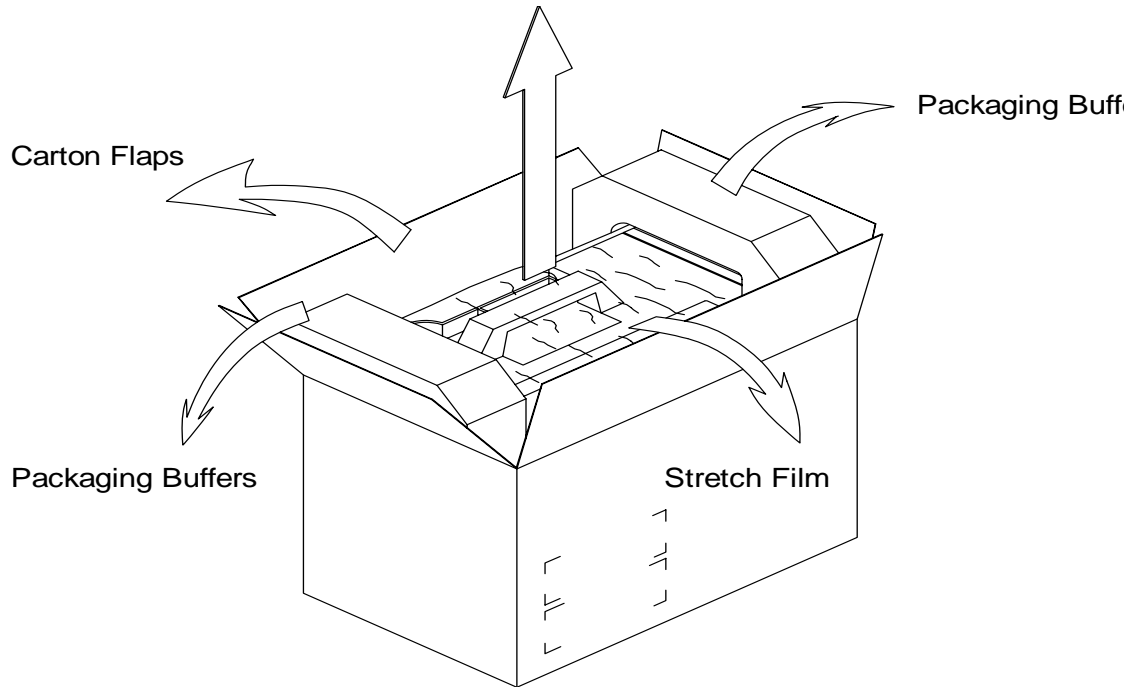

Figure 3-2 Unpacking LOGIQ™ 100 PRO
- 3.) Open the carton flaps. Refer Figure 3-2.
- 5.) Lift the system (wrapped with stretch film) out of the box along with the packaging buffers. Refer Figure 3-2
- 7.) Remove the stretch film which is wrapped around the system. Refer Figure 3-2